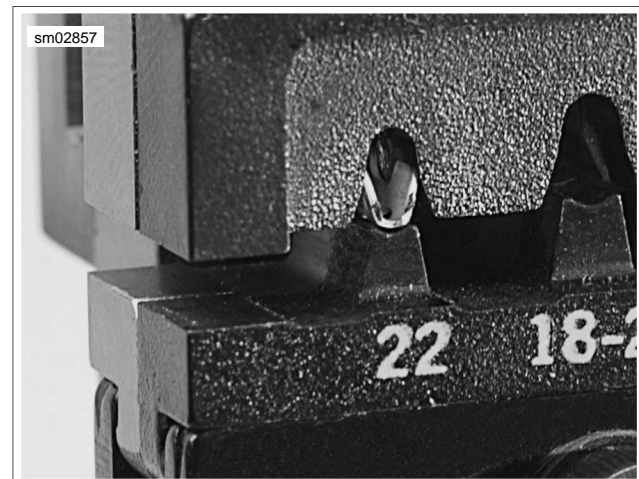

Figure A-36. Crimp Tails in Vertical Alignment between Punch and Die
2. See Figure A-36. Ratchet the handles together until the crimp tails are held in vertical alignment between the punch and the die.